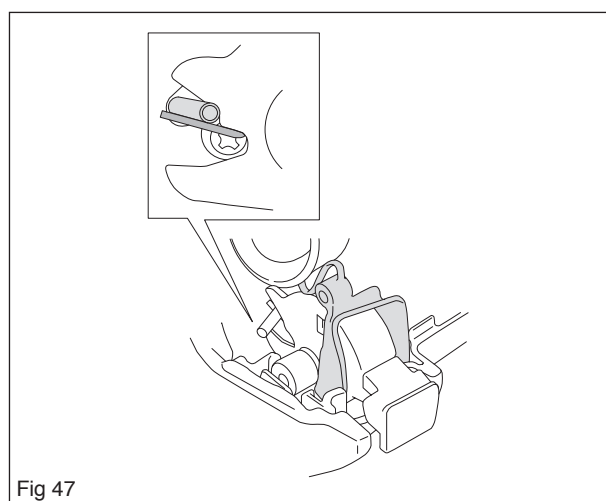

Fig 47
- The spring must be fitted under the choke pin on the carburettor. See figure 47.
- The rubber collar on the stop button must be on the inside of the bottom of the carburettor compartment. See figure 47.